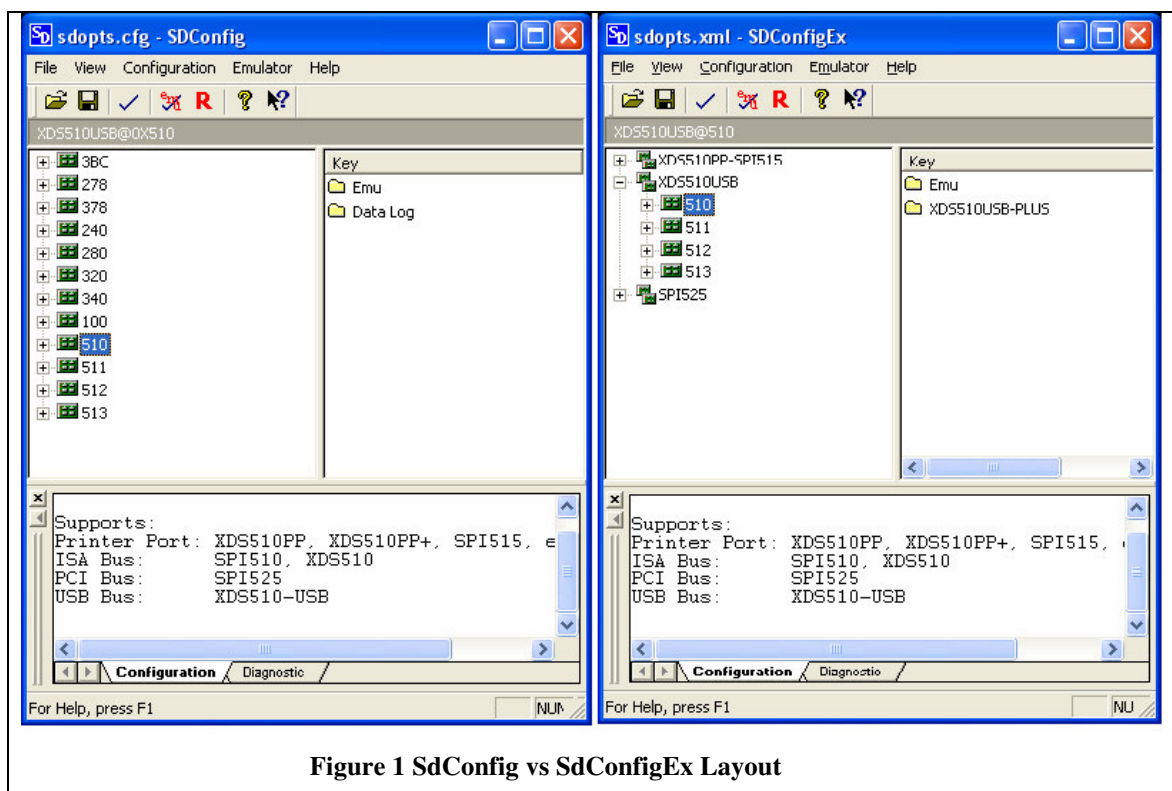

Figure 1 SdConfig vs SdConfigEx Layout
- In SdConfig emulator features are accessed from the GUI based on the emulator port address. In SdConfigEx the emulator options are accessed by the type of emulator which is little more intuitive. See figure 1.